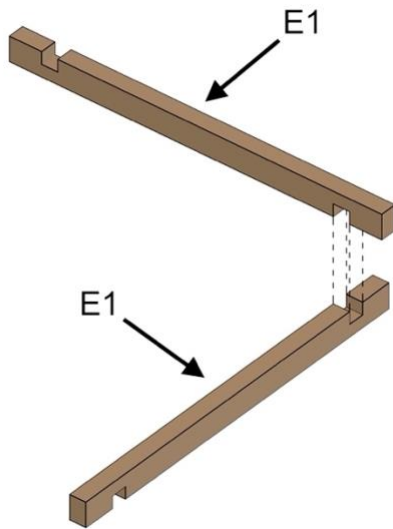

Fig. 53
- Align parts exactly as shown in Fig. 53.